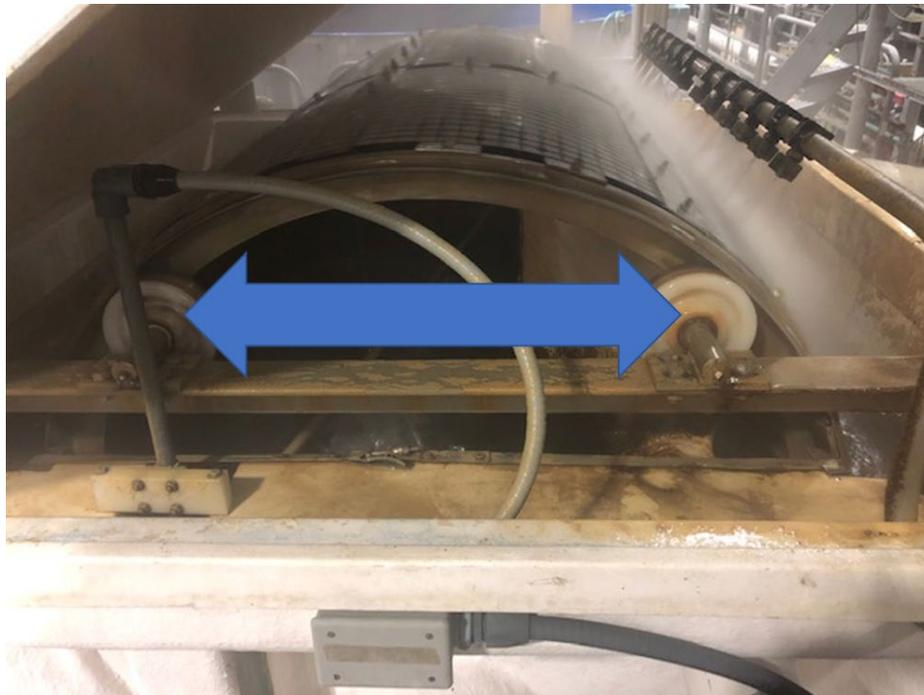

Figure 9. Drum filter support wheels indicated by the double-sided arrow.
3. Grease both support wheels (**Figure 9**) via the grease ports at the end of the wheel supports using a food grade grease.